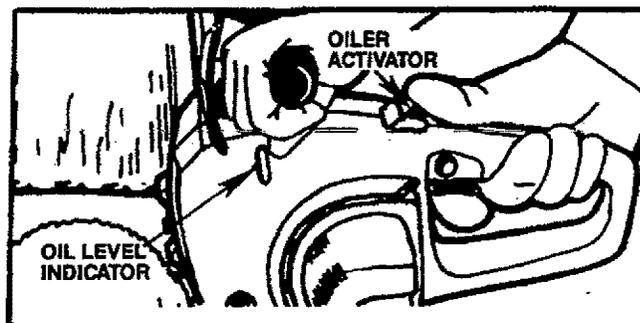

Figure 15
- e. Check the oil level indicator frequently during use. Locate the indicator in the saw frame just below and behind the front handle. Figure 15. If oil is not visible in the slot when saw is upright on a level surface, the tank requires filling.
- a. Operate the oiler by pressing down on the oiler activator with your right thumb. Figure 15.